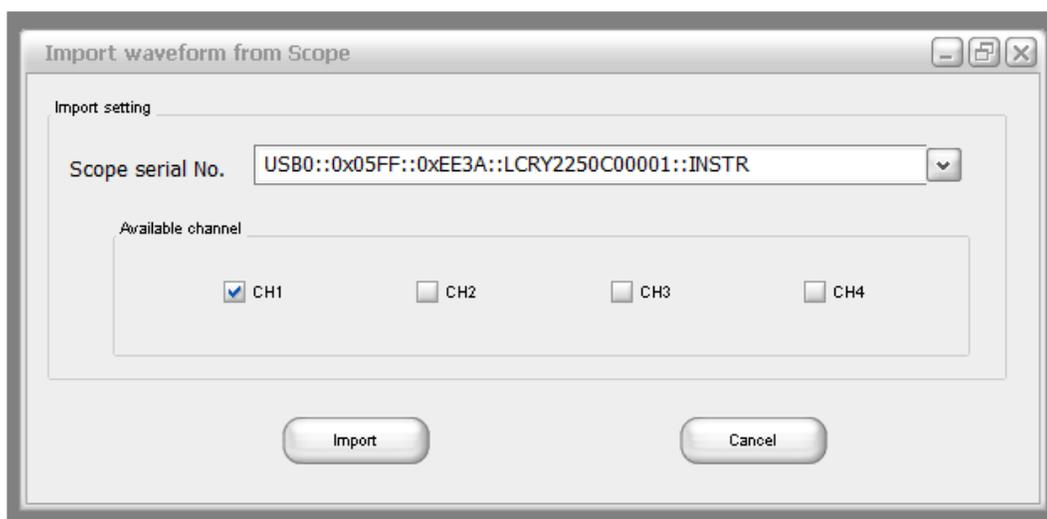

Figure 5: The Import Waveform from Scope dialog box displaying the WaveAce's serial number and providing for channel selection
4. Open WaveStation software on the PC and click Communication in the menu bar. Then click on the Import Waveform from Scope option, which opens the dialog box shown in Figure 5. Be sure to check the appropriate channel box. Then click on Import.